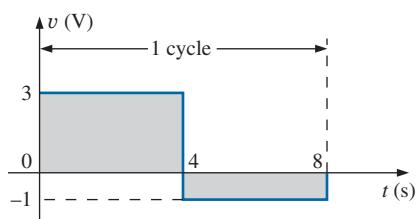

FIG. 13.62
**EXAMPLE 13.22** Find the rms value of the waveform in Fig. 13.62.
The squared waveform of Fig. 13.62.